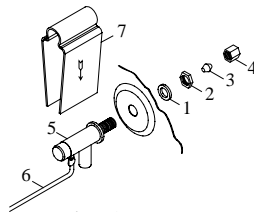

Fig. 4
• **Install float valve and fill pan.** Refer to Fig. 4. Remove items 1, 2, 3, and 4. Insert float body (5) through hole in back post panel as shown. Install washer (1) and nut (2). Tighten to keep float from turning. Place nut (4) and ferrule (3) on water supply line. Connect to float fitting and tighten until water tight. Bend rod (6) to adjust float until water level is about 1 inch below the top of the overflow pipe. Slide float shield (7) over float body (5) until it snaps into place.